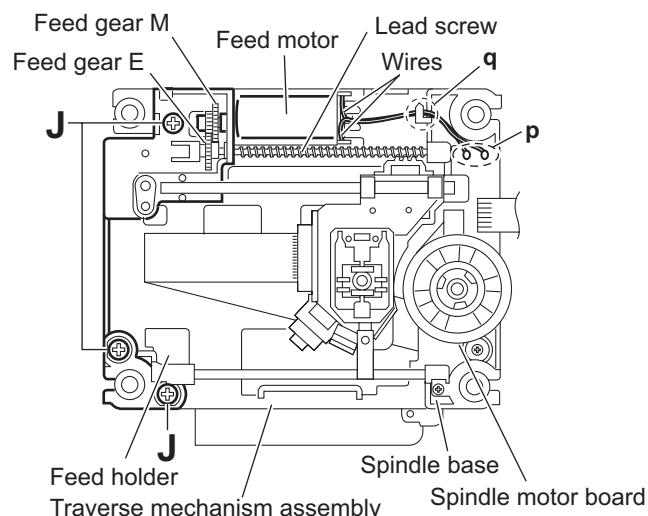

Fig.14
- (3) Remove the wires from the soldered sections **p** on the spindle motor board. (See Fig.14.)
When attaching the feed motor, pass the wires through the section **q** on the spindle base. (See Fig.14.)
- (4) Remove the three screws **J** attaching the feed holder. (See Fig.14.)
- (5) Remove the feed holder, feed motor, lead screw, feed gear E and feed gear M simultaneously. (See Fig.14.)
3.2.10 Removing the spindle motor board (See Fig.14 and 16)
- (1) From the top side of the traverse mechanism assembly, remove the wires from the soldered sections **p** on the spindle motor board. (See Fig.14.)